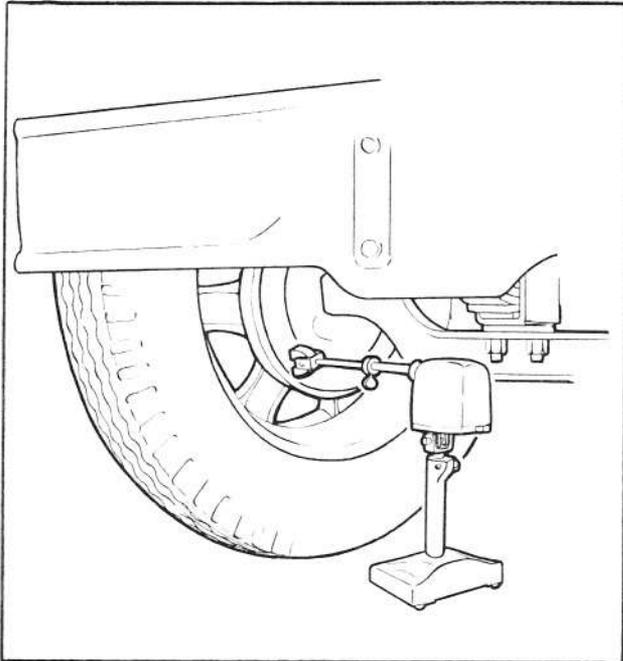

FIG. 9 ON BACKING PLATE
3. Position pick-up magnet on clean surface of brake backing plate near front edge as shown in Figure 9.